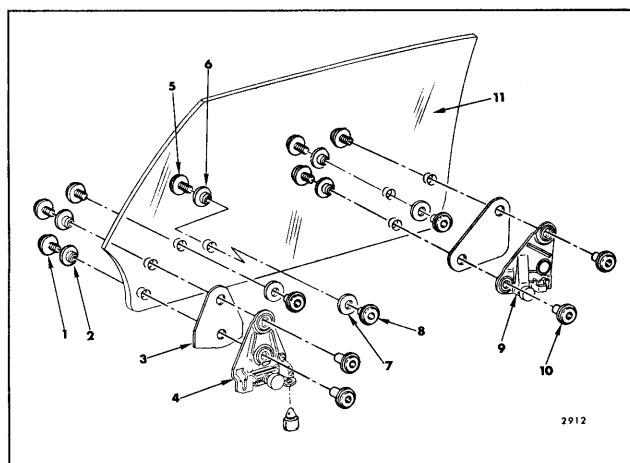

Fig. 6-72—Front Door Window Assembly - "F" Styles
Figure 6-72 is an exploded view of the window assembly and identifies the various components and their assembly sequence.
2. Fore and aft adjustment of the window assembly is controlled by the position of the rear guide. The upper attaching locations in the inner panel ("2", Fig. 6-48) are slotted to permit fore and aft adjustment of the guide. Because of the free floating roller in the window front sash channel cam (Fig. 6-72), the front guide does not have to be adjusted during fore or aft window alignment.